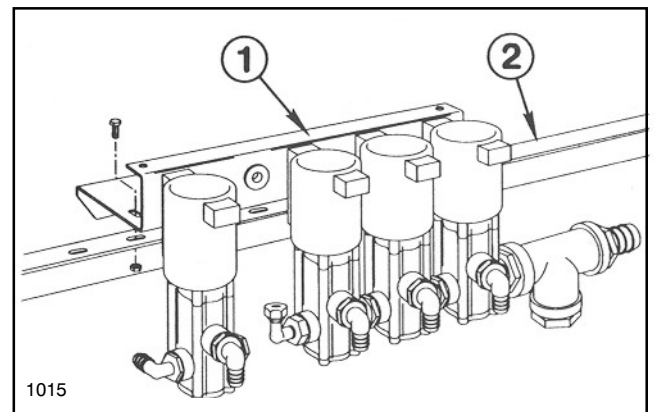

Figure 3
5. Attach the Solenoid Assembly to the Angle Crossmember with four (4) 5/16" hex head cap screws and hex nuts. (See FIG. 3.)